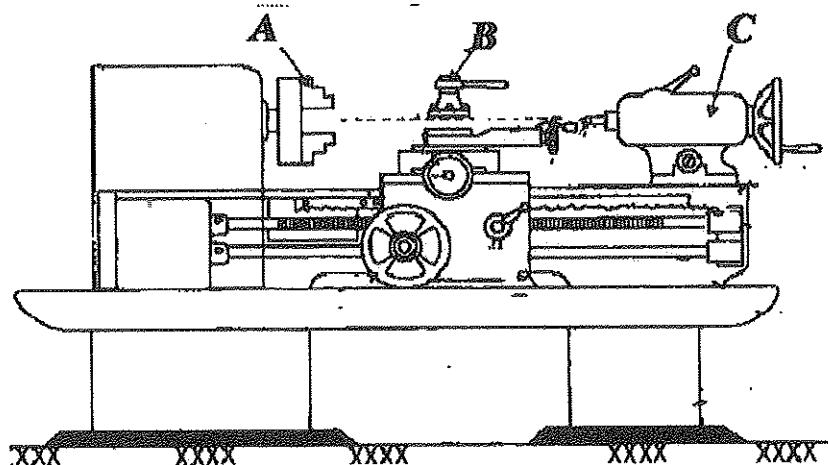

Figure 2a (i) / Rajah 2a (i)
- (a) i. Figure 2a (i) shows various parts of centre lathe machine labelled as A, B, and C. State the name and function of the labeled parts.